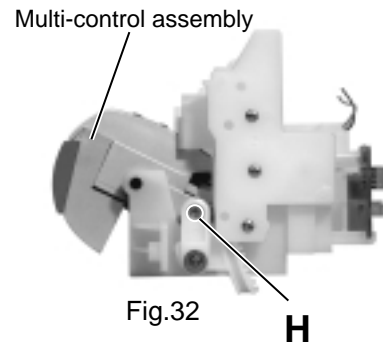

Fig.32
■ Removing the multi-control assembly (See Fig.32 to 34)